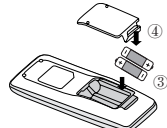

Fig.2
3. Place two 7# (AAA 1.5V) dry batteries, and make sure the position of " + " polar and " - " polar is correct (as shown in Fig 2 ).
4. Reinstall the cover (as shown in Fig 2 ).